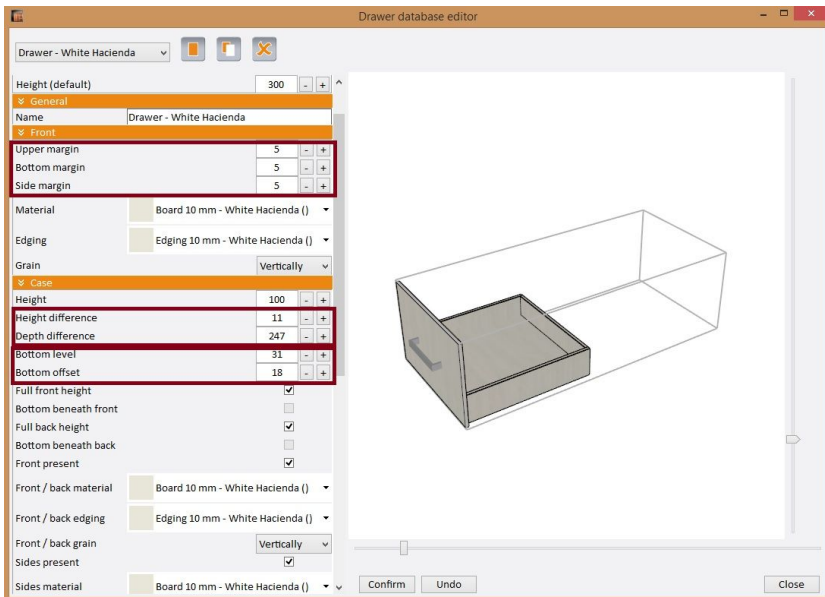

Fig. 47 - Drawer model database editor
The editor allows you to change the parameters of existing drawers and to add new models. The changes to the settings are displayed in real time in the preview, which can be rotated by 180° with a slider located below it. In the preview, the outline of a hypothetical cell in which the drawer will be placed (grey lines) and the currently edited dimension are highlighted (e.g. the distance between the drawer case and the sides of the cell - orange lines visible on Figure 47 on the next page).
Therefore it is much more important to properly set the values of offsets between the particular parts. Especially important are settings listed below (and marked on Fig. 47):
- the difference between **the width of the drawer case and the width of the cell** (the dimension is marked on Fig. 47);